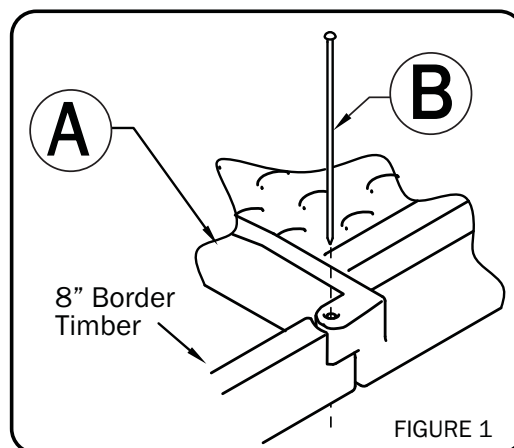

FIGURE 1
2. Pour concrete into footing holes and lay Accessible Ramp(A) in position over surface. Push (2) Stakes(B) through the holes in the Accessible Ramp(A), through Border Timbers and into concrete. See *Figure 1*.